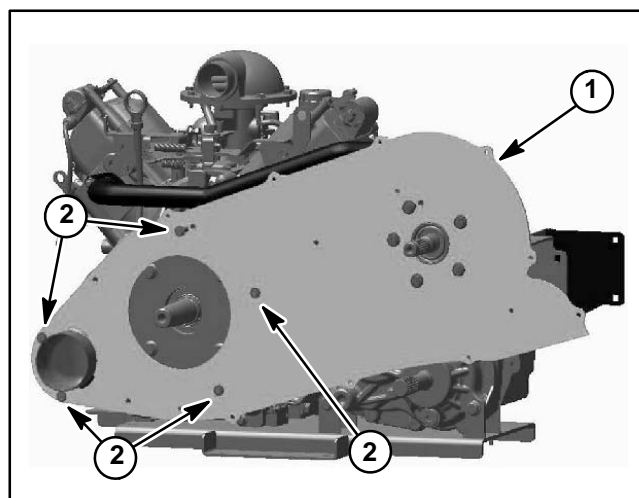

Figure 23
2. Screw (5)
15. Remove five (5) washer head screws that secure spanner plate to air inlet housing attached to engine (Fig. 23). For assembly purposes, note the locations of the five (5) removed screws. Two (2) holes in the spanner plate that align with holes in the air inlet housing are used to secure the CVT enclosure cover. Do not remove spanner plate from transmission so that the plate position can be used to align engine with transmission during engine installation.
16. Remove four (4) flange nuts and flange head screws that secure engine to engine mount. For assembly purposes, note that negative battery cable, wire harness ground connection and lock washer are secured with the left, front engine fastener.